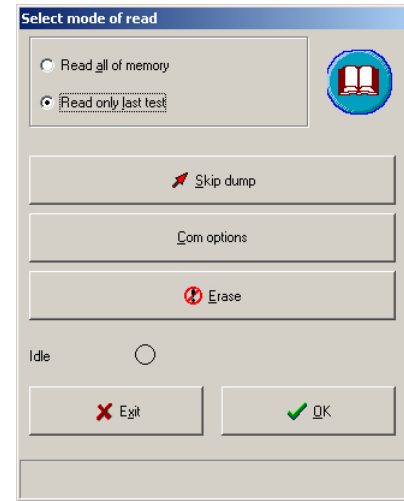

Fig. 5-1: Select mode for reading the memory
2. Switch on the readout interface and start the "Back-up memory" module from CPT-Log (Fig. 1-1). The "select mode of read" window appears (Fig. 5-1) from which you choose between two read out alternatives.
3. Depending on the amount of data stored in the "Back-up memory" reading out the data will take some time. You can choose to read out all data in the memory or only the last sounding (Fig. 5-1).